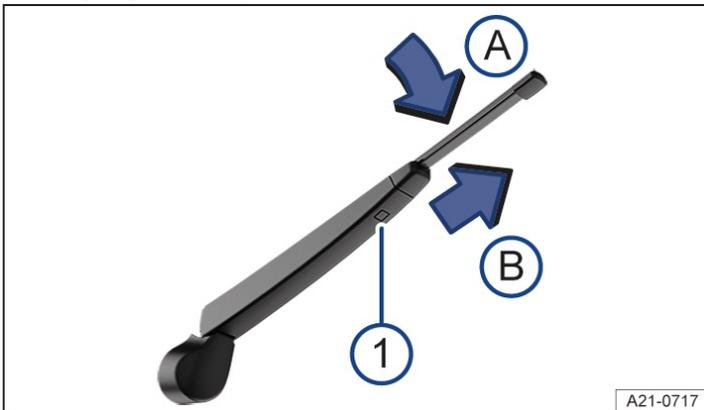

Fig. 2 Changing the wiper blade for the rear window.
3. Press and hold the release button → Fig. 2 ①.
4. Tilt the wiper blade in the direction of the wiper arm → Fig. 2 ② and pull it off in the direction of the arrow ③ at the same time. You may need to use some force to do this.
5. Insert a new wiper blade with the same length and design onto the wiper arm against the direction of the arrow. Push it on until it engages → Fig. 2 ④. The wiper blade must be in folded-down position to do this → Fig. 2 ⑤.